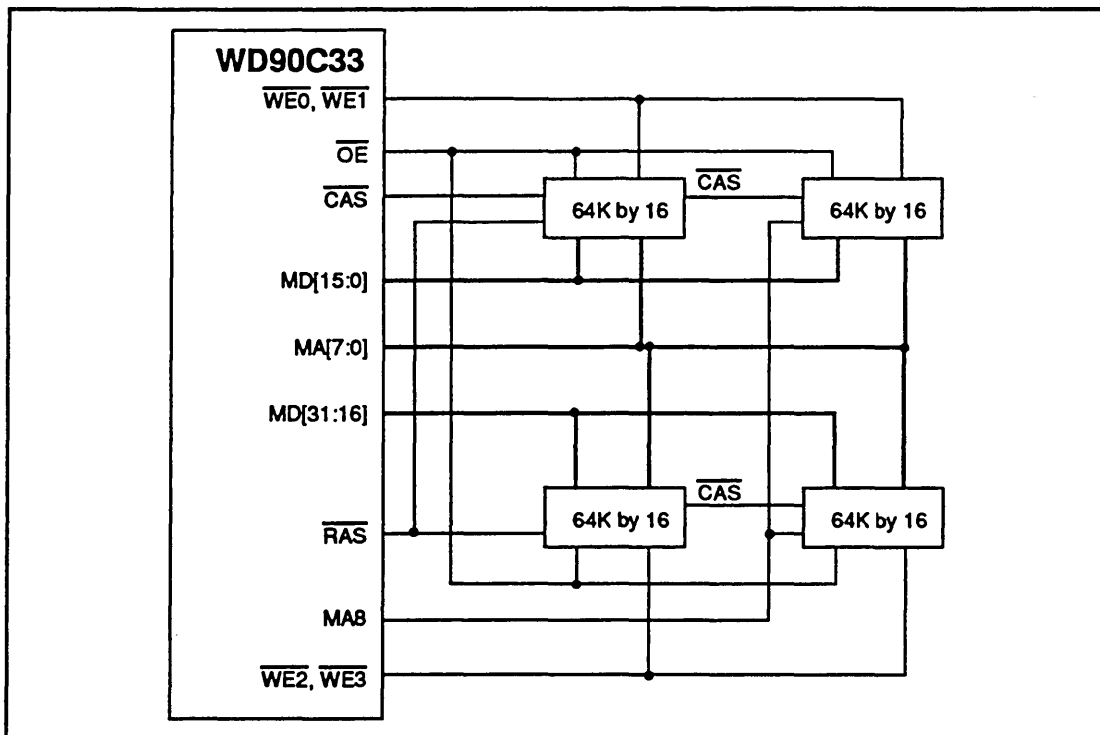

FIGURE 3-7. TWO OR FOUR 64K BY 16 DRAM INTERFACE
- Figure 3-7. Two or Four 64K by 16 DRAM Interface
The WD90C33 has a flexible DRAM interface. It works with two or four 64K by 16 DRAMs with a 32-Bit memory interface. It can also work with four 256 Kbyte by 4 DRAMs or one 256 Kbyte by 16 DRAM with a 16-Bit memory interface (see Figures 3-7 and 3-8). Other possible configurations are eight or sixteen 256 Kbyte by 4 DRAMs, and two or four 256 Kbyte by 16 DRAMs with a 32-Bit memory interface. In all cases the WD90C33 uses the DRAM fast page mode to optimize performance.
Figure 3-7 shows the interface between two or four 64k by 16 DRAMs and the WD90C33 Controller.